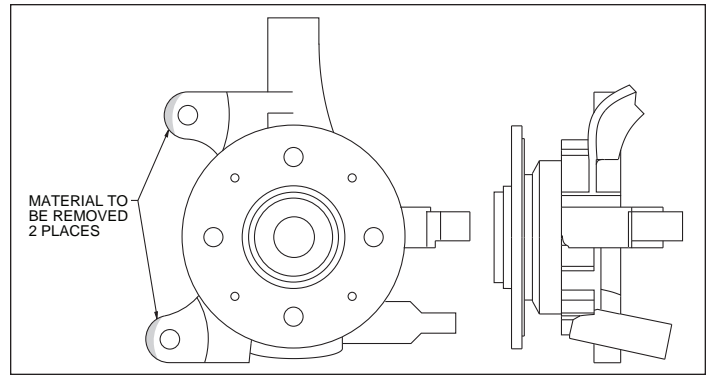

Figure 3. Spindle Modifications
- There are spindle modifications that need to be performed before installation of the Wilwood caliber bracket. Please reference figure 3, page 4. These modifications should be performed by a qualified machinist.
- These modifications should be performed by a qualified machinist. Refer to figure 3, right. Only one view of the spindle is shown, but the modifications need to be performed on both spindles.